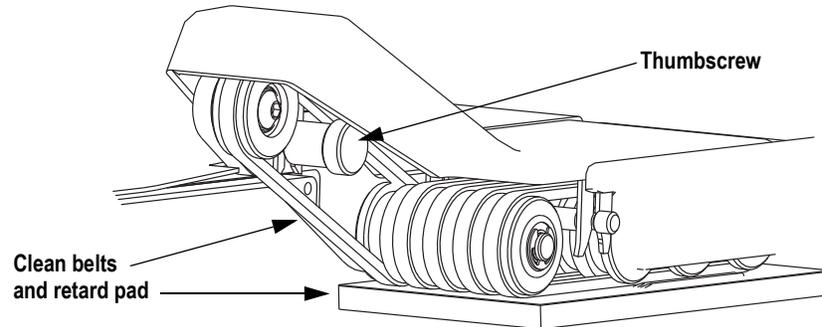

FIGURE 27: Belts and retard pad location
- 2 Lift the feed arm assembly up (hinged on the left side) and loosen the thumb screw on the back side (see Figure 27).